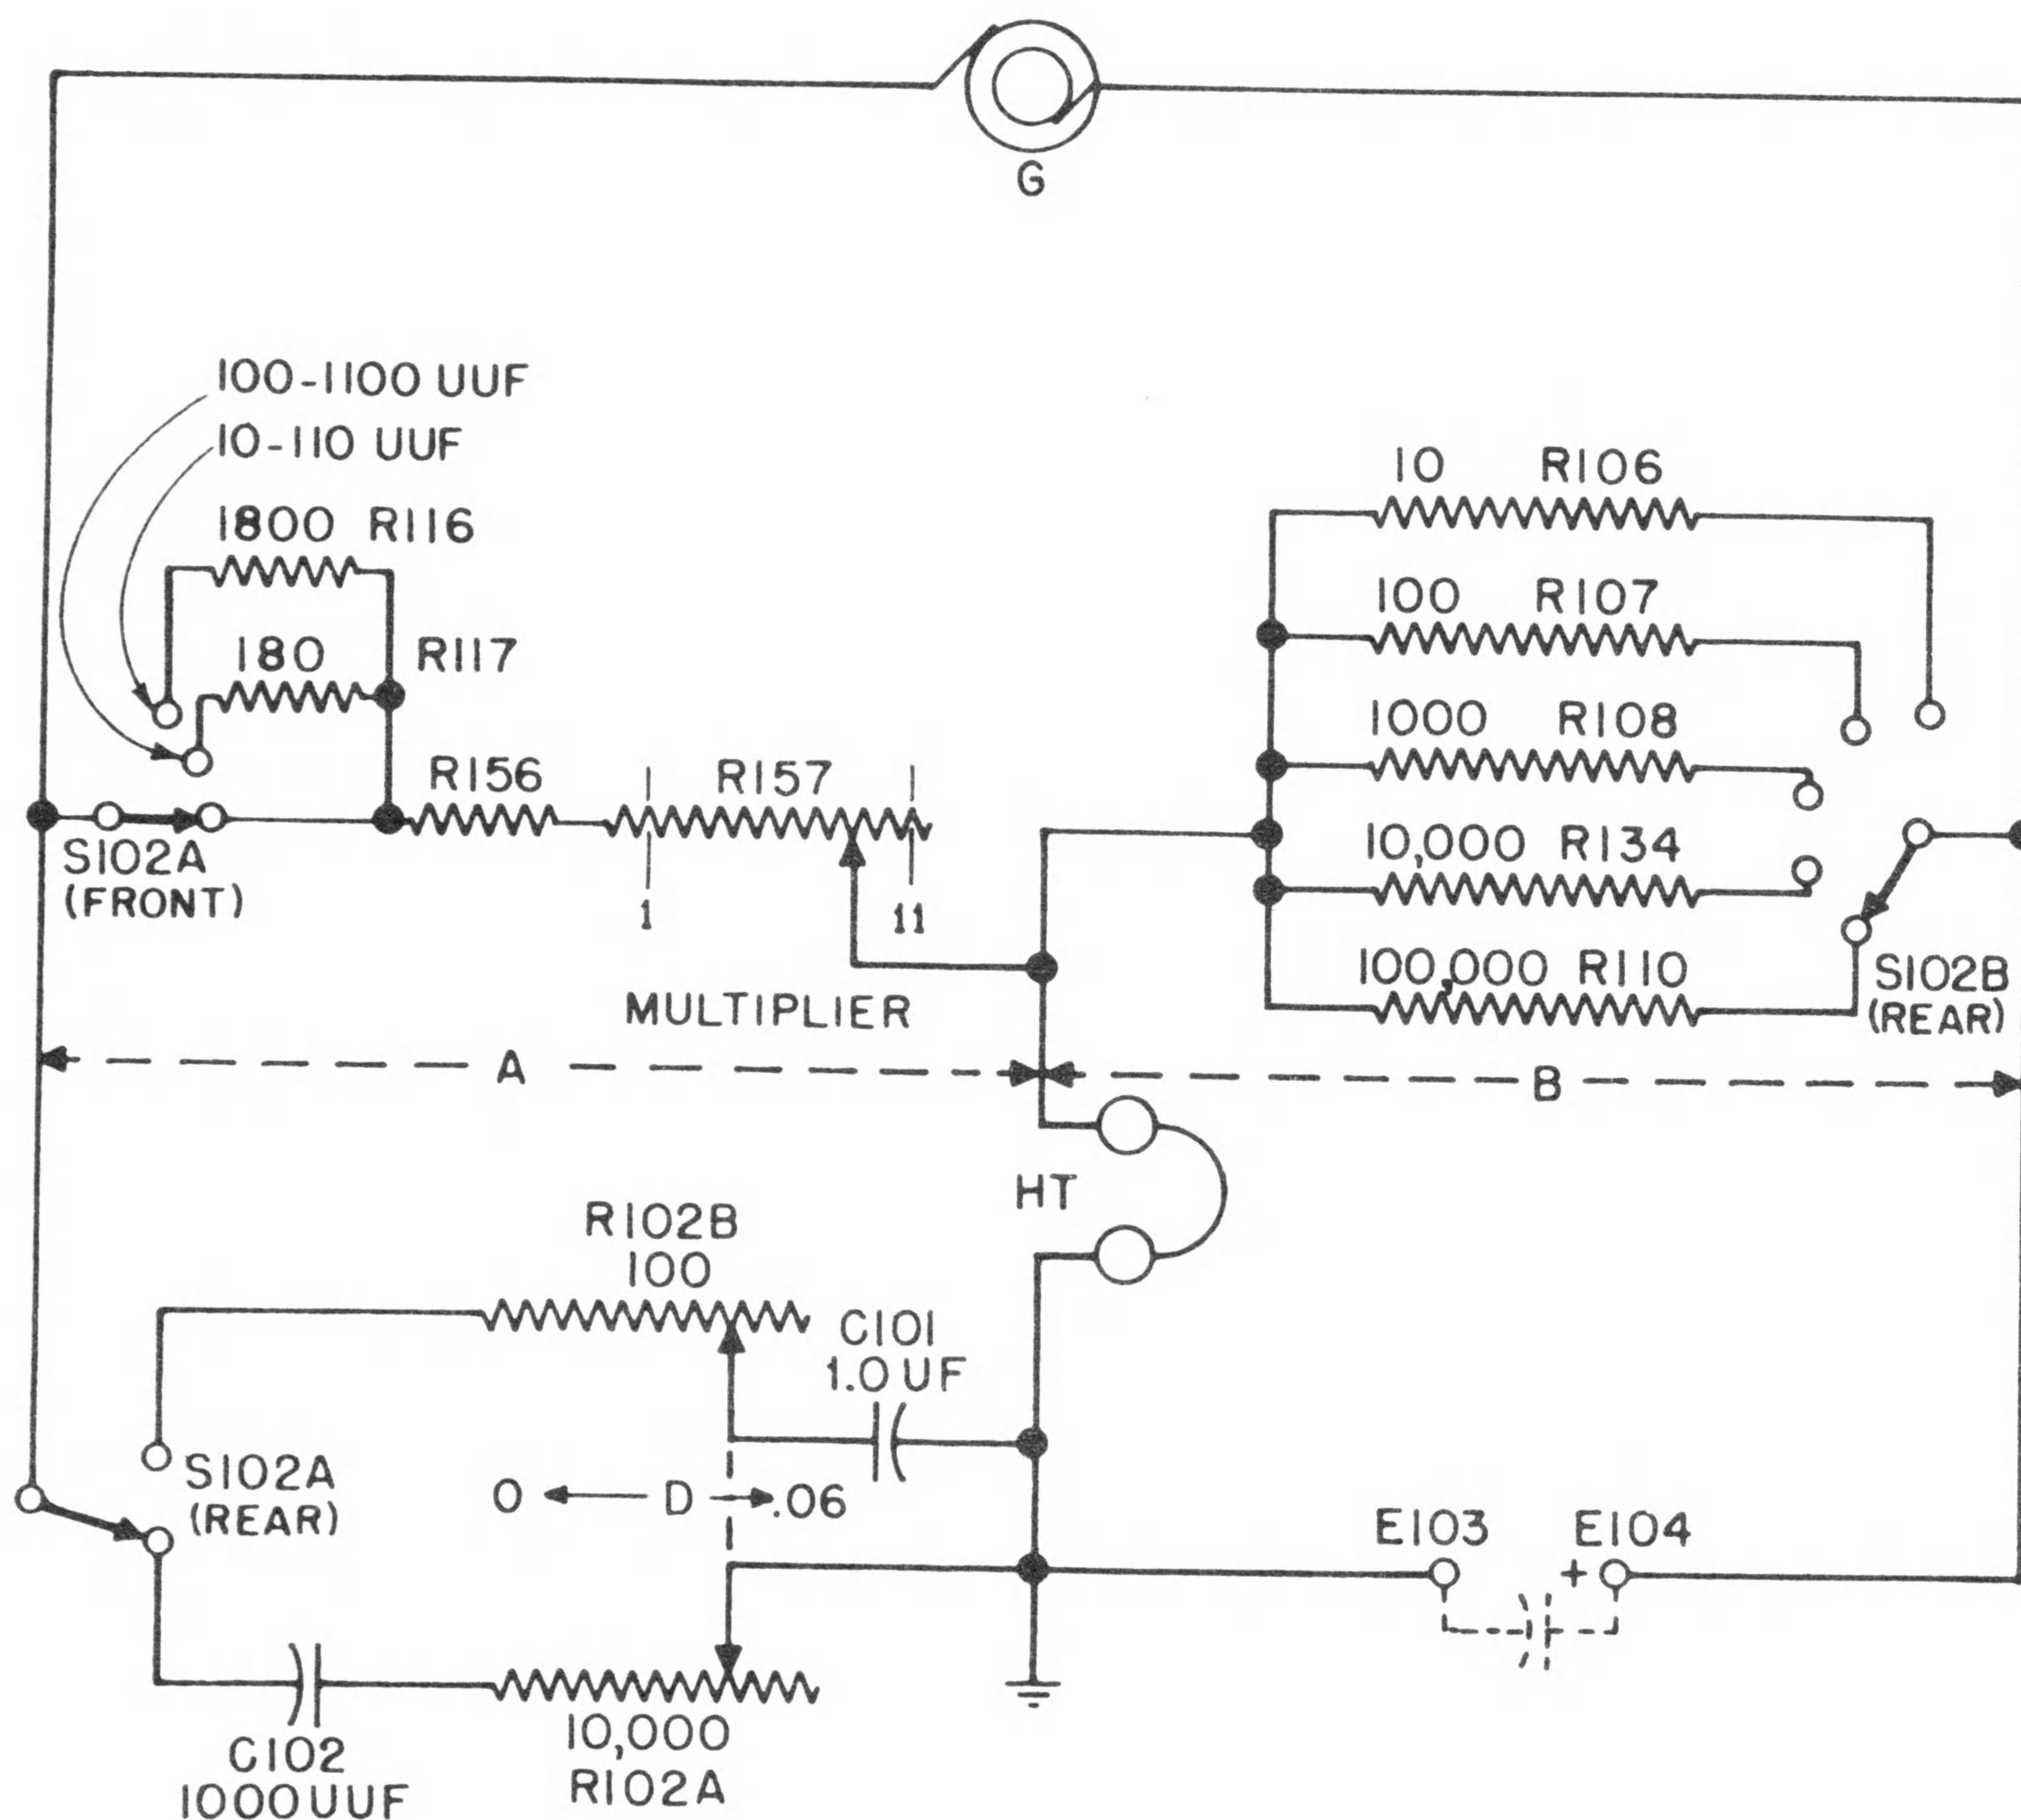

Figure 2-6. Capacitance Bridge, Measuring Circuit.
c. The actual circuit arrangement for capacitance measurement is in Figure 2-6, corresponding to the "C" position of the FUNCTION switch. Note that the "A" arm is the same one used for resistance measurement as is the "B" arm with the addition of one resistor for an extreme range. Similarly, two capacitance standards are used. With these arrangements, eight continuous and progressive ranges in capacitance are formed as shown in Table 2-2.
The algebra on Figure 2-9 also points out the justification for using the same dissipation control (D dial) in series with the standard capacitor which was employed in the capacitance-bridge connection, Figure 2-6.